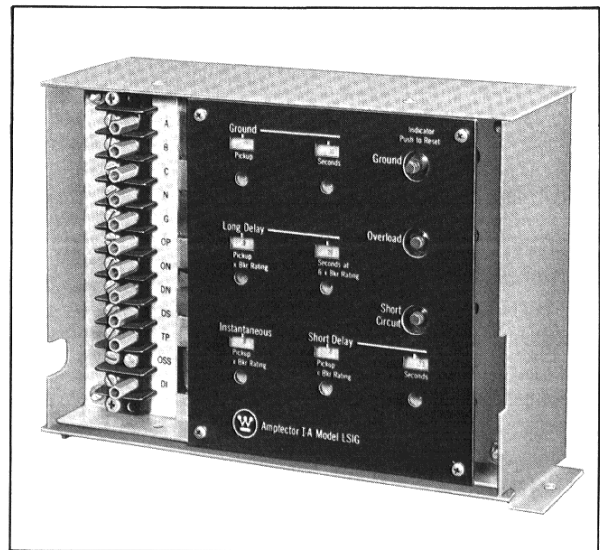
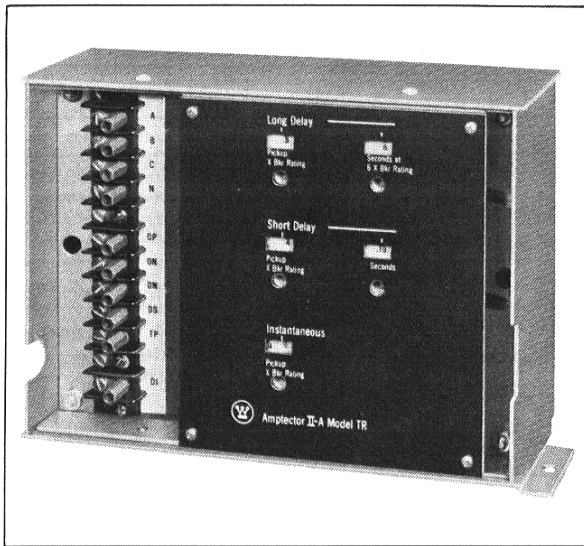

Fig. 2 Amprector IA
Fig. 3 Amprector IIA
There are a maximum of seven (7) adjustable controls on the Amprector IA and five (5) on Amprector IIA, each can be adjusted with a screwdriver through openings in the front face plate, Fig. 2 and Fig. 3.